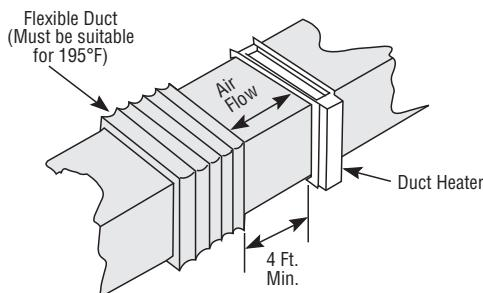

Figure 12
8. Installation with flexible duct. Where a duct heater must be installed near a flexible duct connection, be certain that a 4' minimum distance between the duct heater and the flexible connector exists and that the connector is suitable for 195°F temperature. (Refer to Figure 12).